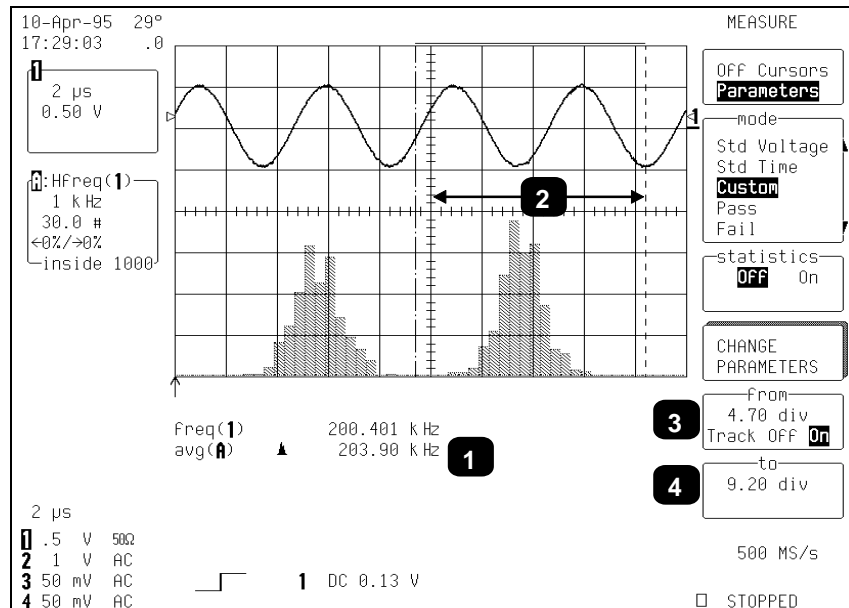

Figure 6.16
Figure 6.16 shows the average (item ❶) of the distribution between the parameter cursors for a histogram of the frequency (“freq”) parameter of a waveform. The parameter cursors (❷) are set “from” 4.70 divisions (❸) “to” 9.20 divisions (❹) of the display.